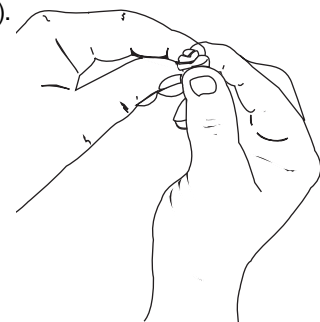

Fig. 29
5. Squeeze the filter to spread and remove excess oil (Fig. 29).